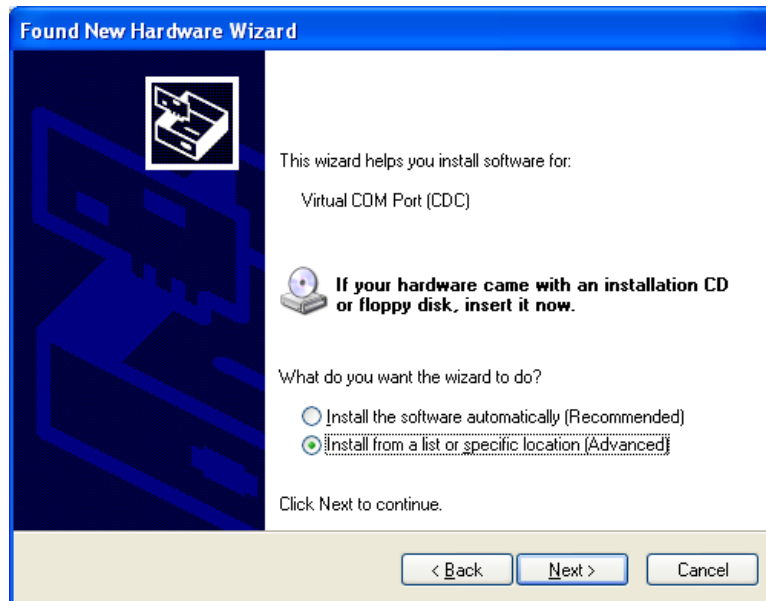

Figure 25. Driver Installation Step 4
4. Select the *No, not this time* option and click *Next*. The screen shown in Figure 25 should appear.